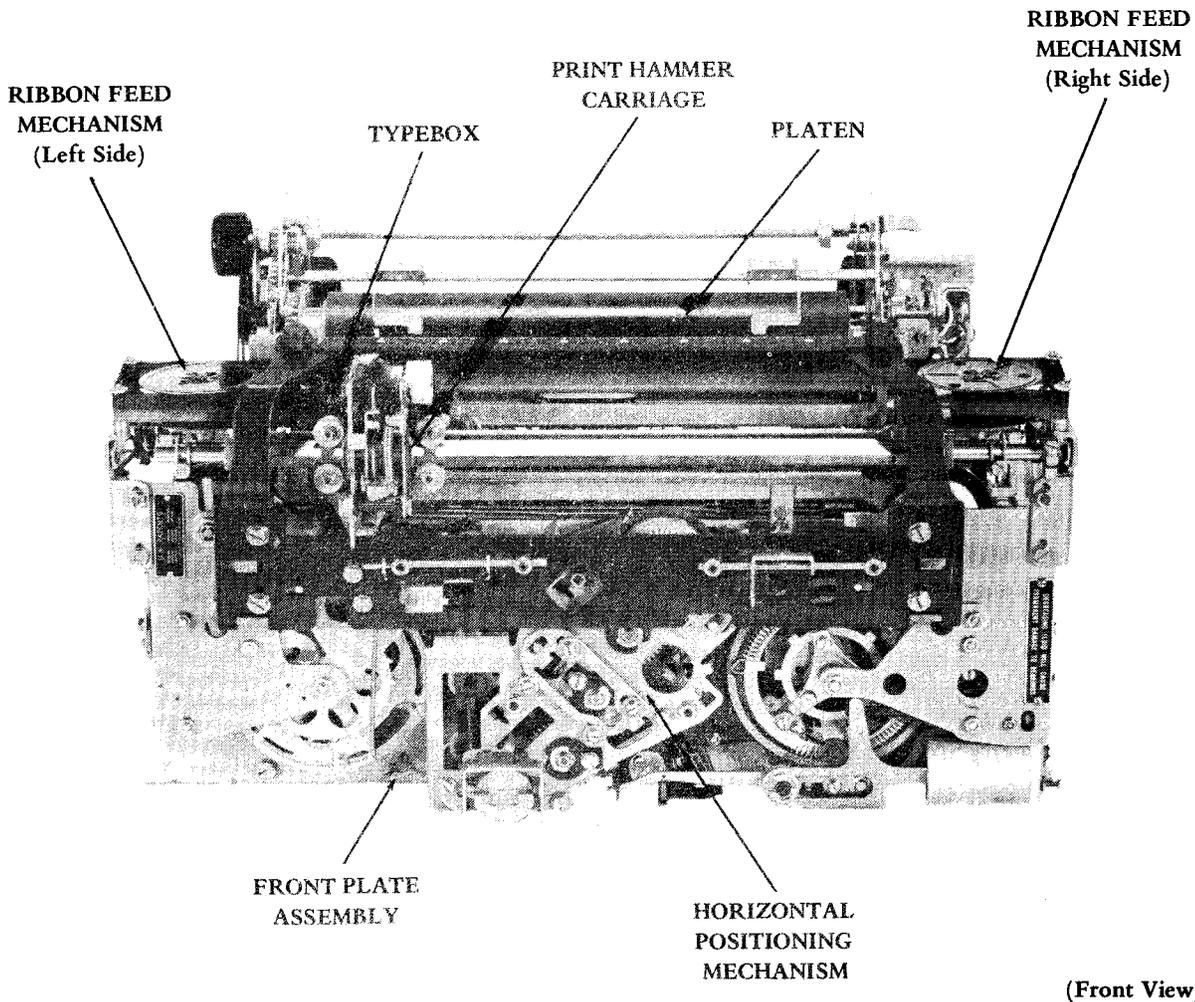

Figure 2 - 37 Typing Unit (Friction Feed)
2.08 To remove the ribbon feed mechanism (Figure 2) from the unit – left side, proceed as follows.
2.09 To replace the ribbon feed mechanism – left side (Figure 2), reverse the procedure used in removal. Check the following adjustments:
2.10 To remove the ribbon feed mechanism from the unit – right side (Figure 2), remove the retaining ring from the post on the drive arm. Remove one locknut and sleeve from the right blocking lever and connecting rod connection.
2.11 To replace the ribbon feed mechanism — right side (Figure 2), reverse the procedure used in removal. Check Ribbon Reversing Connecting Rod adjustment.
2.12 To remove the print hammer carriage from the unit (Figure 2), proceed as follows.
2.13 To replace the print hammer carriage (Figure 2), reverse the procedure used in removal. Check the following adjustments:
2.14 To remove the front plate assembly from the unit, proceed as follows (Figures 2, 4, 5, and 6).
2.15 To replace the front plate assembly (Figures 2, 4, 5, and 6), reverse the procedure used in removal. The carriage return lever must be in the slot in the carriage return link assembly. The horizontal positioning slide trip levers must be connected to their respective codebars.
2.16 To remove the horizontal positioning mechanism (Figure 2) from the unit, proceed as follows.
2.17 To replace the horizontal positioning mechanism (Figure 2), reverse the procedure used in removal. Make sure that the third idler gear is placed in position before mounting the horizontal positioning mechanism to the front plate. Remount print carriage guideplate; then set Ribbon Feed Main Brackets Left and Right adjustment to setting, recorded in 2.16(2), by moving the print carriage guide up or down. Check the following adjustments: